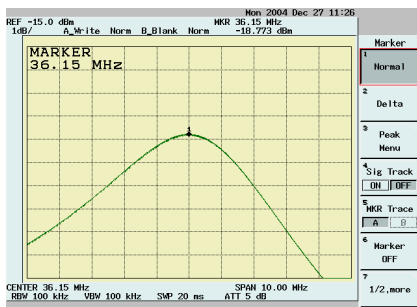

Fig. 3
- Calibrate **C23**, **L9** to tune the equalisation cell to the middle of the intermediate frequency (Fig.3) with **JP5** on and **JP3** and **JP4** off.